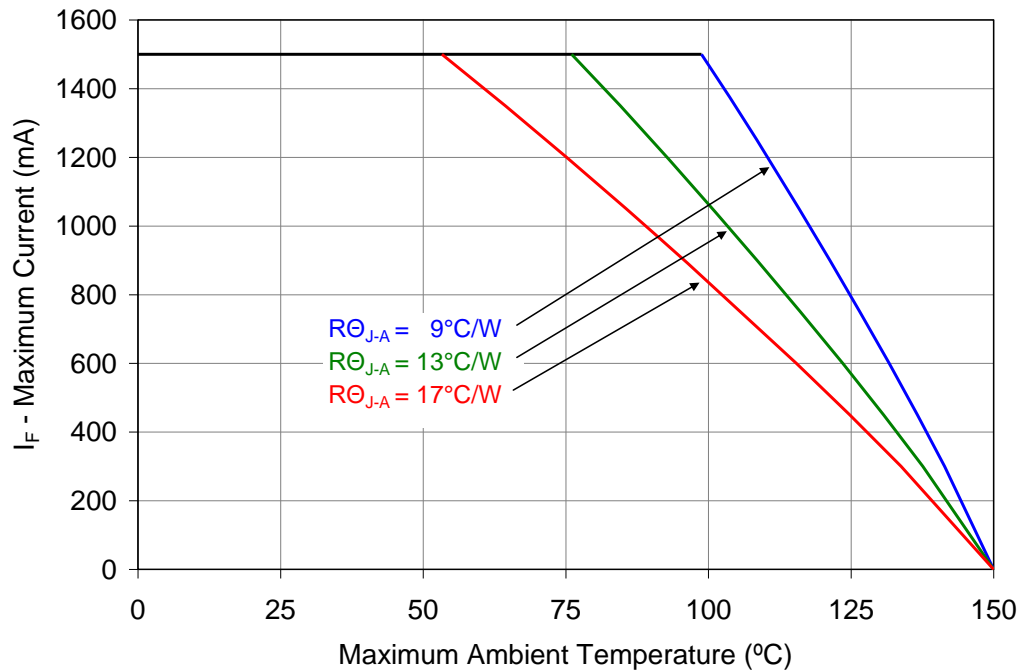

Figure 10: Maximum forward current vs. ambient temperature based on T_{J(MAX)} = 150°C.
- Maximum DC forward current is determined by the overall thermal resistance and ambient temperature. Follow the curves in Figure 10 for current derating.
Notes for Figure 10: